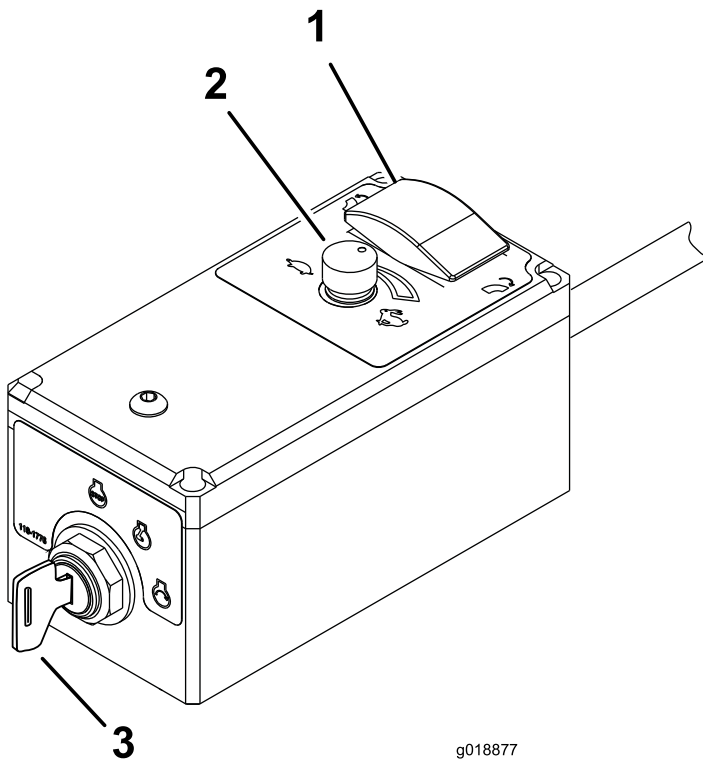

Figure 10
3. Rotate the engine ignition key clockwise to the START position to start the engine; release the key when the engine starts (Figure 10).
3. If leaving the machine, rotate the engine key to the OFF position and remove it from the switch (Figure 10).